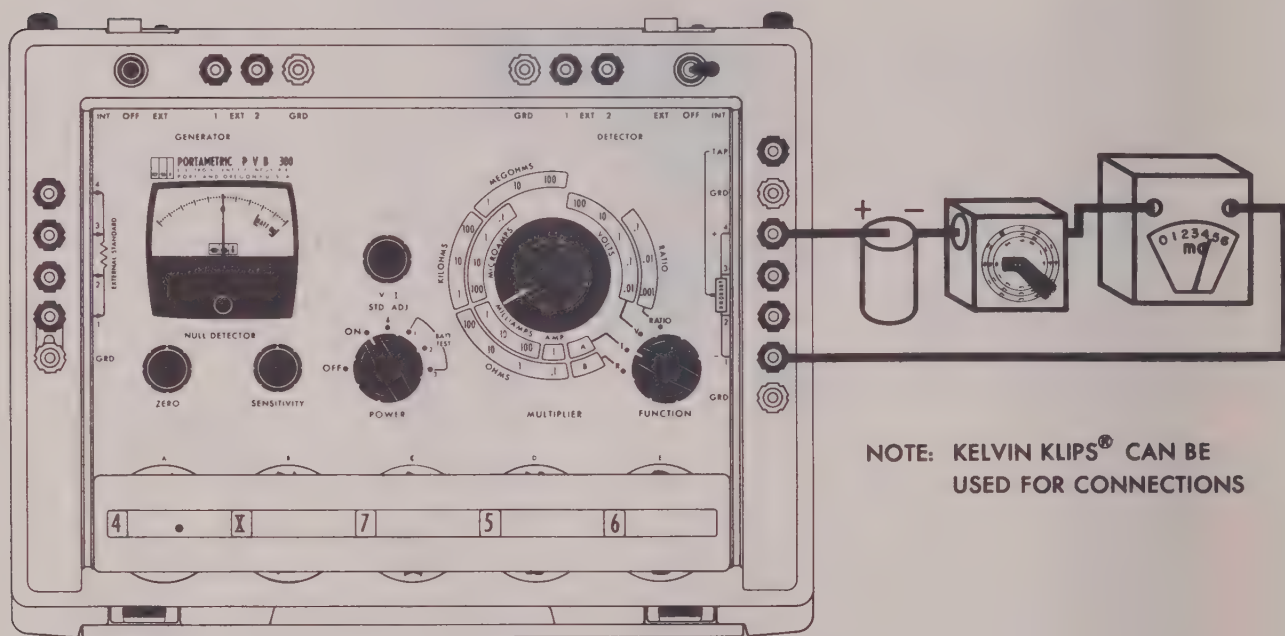

Figure 2.6 - Current Measurement
- 11) Connect unknown current to UNKNOWN terminals 1 and 4 observing that + polarity connects to terminal 4. KELVIN KLIPS can be used. See Figure 2.6.
- 8) Connect unknown resistor to the UNKNOWN terminals as shown in Figures 2.6, 2.7, and 2.8.